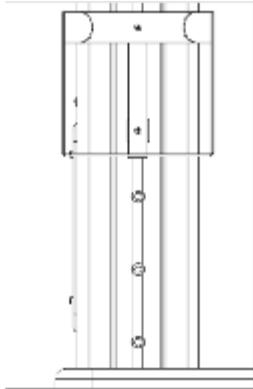

Figure 9.1
2. Use the M3X12 cross screw (see Figure 9.1).